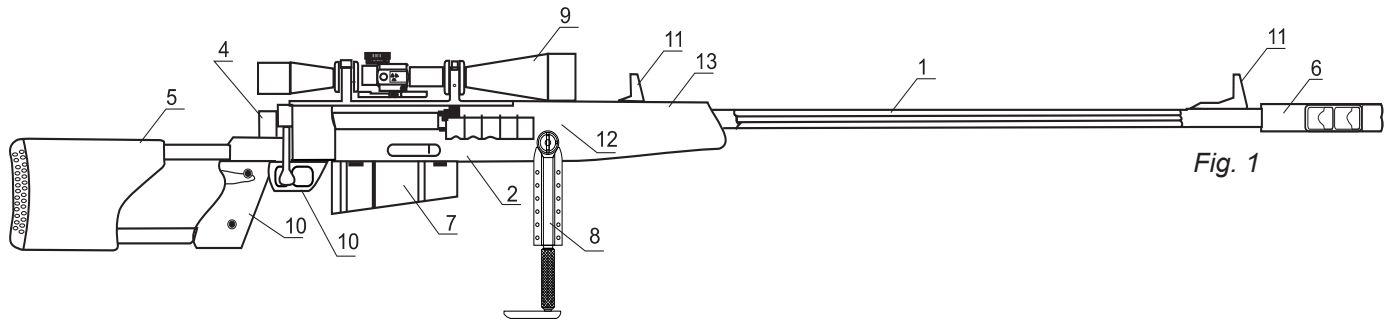

Fig. 1
2. The rifle (Fig. 1) consists of the following parts and assemblies: barrel (1), receiver (2), triggering mechanism (3), bolt (4), stock (5), muzzle brake (6), magazine (7), bipod (8), optical sight (9), handgrip (10), mechanical sight (11), carrying handle (12), wooden cover (13), accessories (14).
3. Function of the barrel (1, Fig. 1) is to give bullet the direction of flight. Cartridge chamber and bullet lead section of the barrel are protected from corrosion by chrome coating. There are two threads on the barrel exterior; the one on the front part connects it with the muzzle brake while that on the rear part joins it with the receiver.
4. The sights (front and rear) (11, Fig. 1) are folding type, non-adjustable, allowing for firing at distances up to 400 m. The sight bases are provided with dovetail guides which fit onto corresponding dovetail lugs located on the barrel.
5. Function of the receiver (2, Fig. 1) is to join together all parts of the rifle into a functional whole. The interior of the receiver serves to accommodate and guide the bolt. Inside the receiver (Fig. 2) there are:
- Two longitudinal grooves (1) along which bolt nipples slide in forward-backward movement,
- Two lugs (2) upon which the bolt nipples rest when closing the barrel bore with a part of spiral surface along which the bolt nipples slide in locking and unlocking
- Lug in the rear part (3) as a support for the bolt rear nipple with a corresponding part of spiral surface,
- Rectangular opening (4) above the lug supporting the rear nipple to guide the body in its movement forward backward.